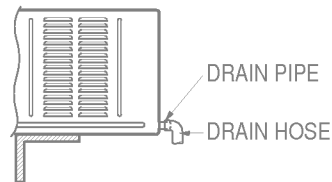

Fig. 3
- Connect a drain hose to the drain pipe as shown in Fig. 3.